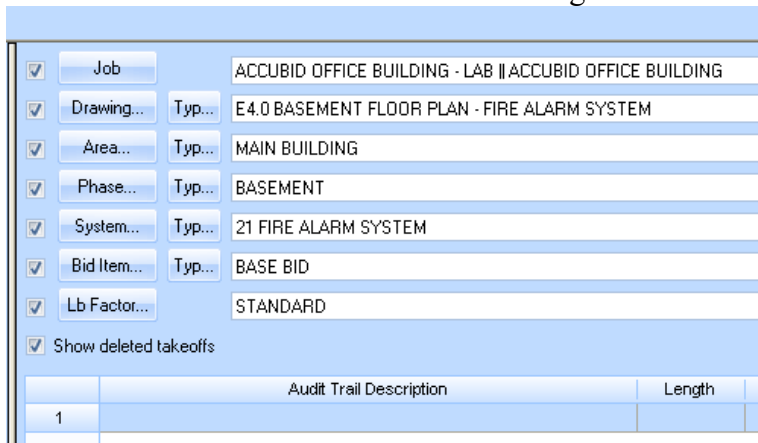

Figure 1
6. Set the breakdown labels as shown in Figure 1.